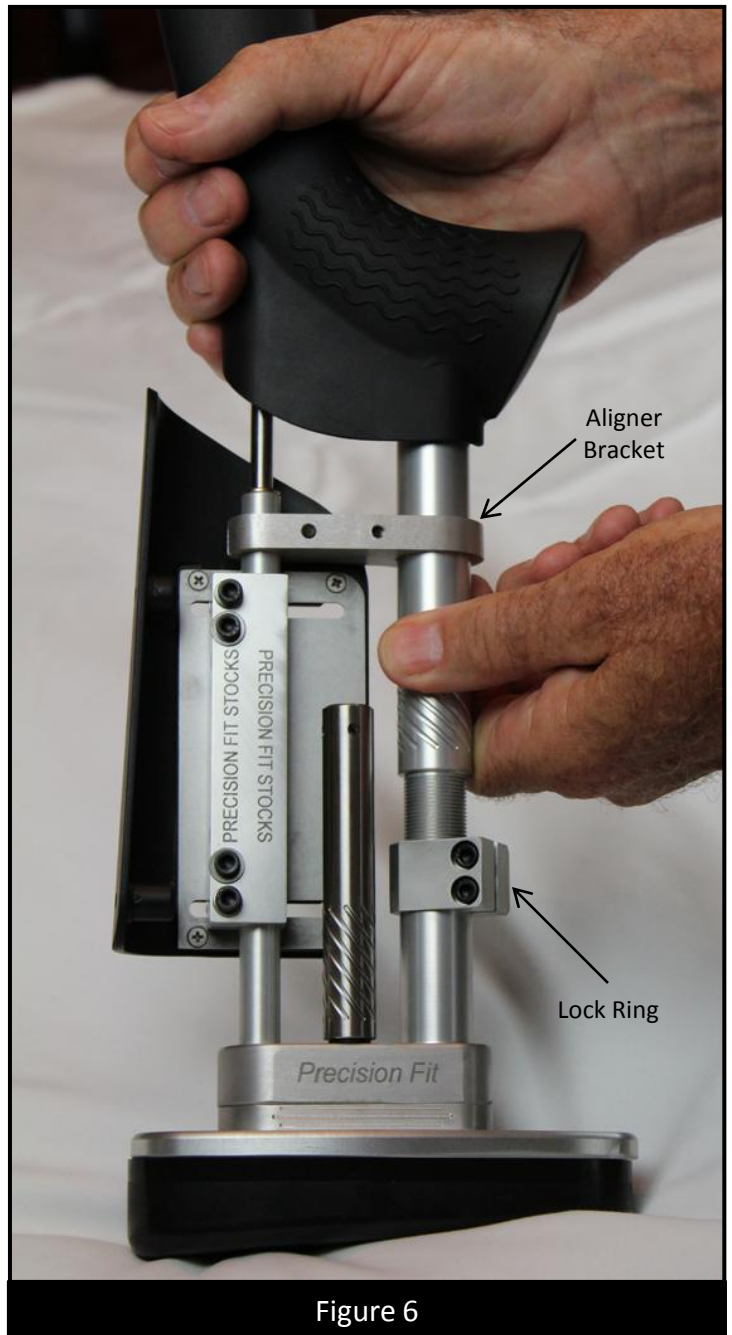

Figure 6
3. Push down on top of the absorber unit to compress it slightly and turn the absorber tube [Ident. 2) clockwise to shorten or counter-clockwise to lengthen it. *(Figure 6)*